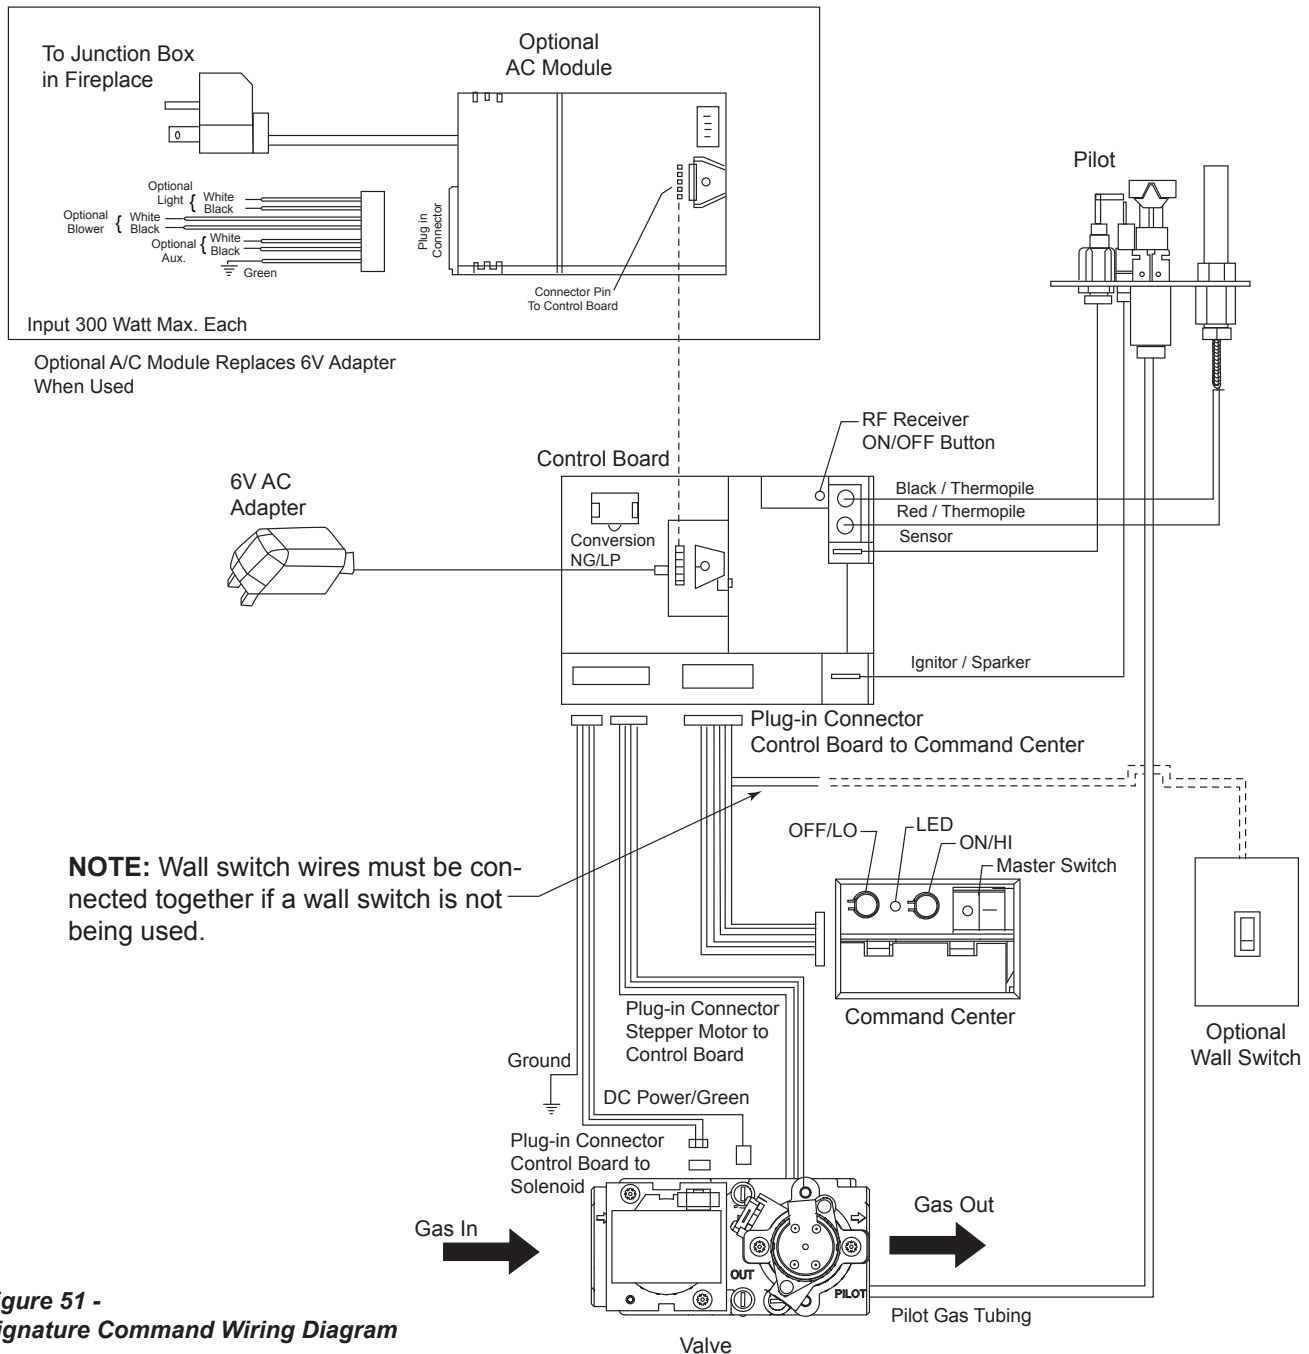

Figure 51 -
The wall switch wire connection is located off the 2 ft. wire harness from the control box to the command center. *Figure 51*. The connection is labeled “Wall Switch”. Unplug the male and female connectors and connect the two (2) low voltage wires provided. Run wire to desired location on wall. Up to 50 ft. of 18 ga. wire may be used if necessary. Attach wires to wall switch. Mount the wall switch in to junction box and screw on cover.